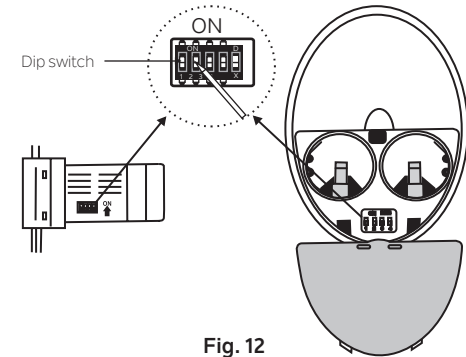

Fig. 12
**NOTE:** The CoolTouch™ Control System is equipped with 16 possible frequency combinations to prevent interference from or with other remote control units. The frequency switches on your receiver and transmitter have been preset at the factory. Please recheck to make sure the switches on transmitter and receiver are set to the same position. (Fig. 12)